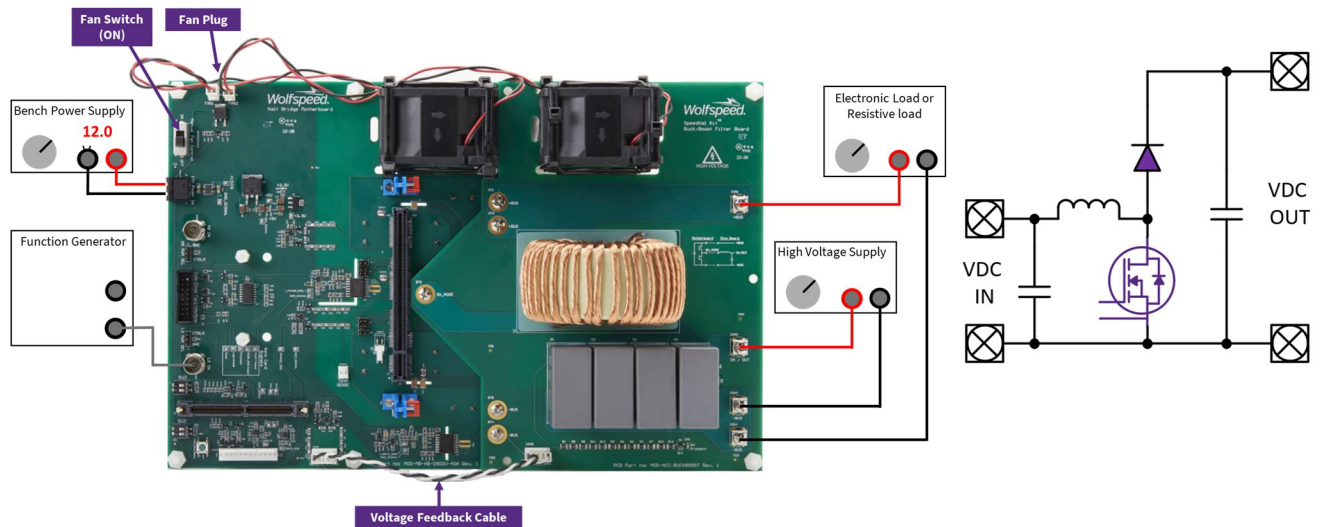

FIGURE 44: CONNECTION DIAGRAM FOR ASYNCHRONOUS BOOST CONVERTER
- Connect buck/boost filter board to the motherboard using the 5 screws and terminal nuts on the motherboard (Figure 44).